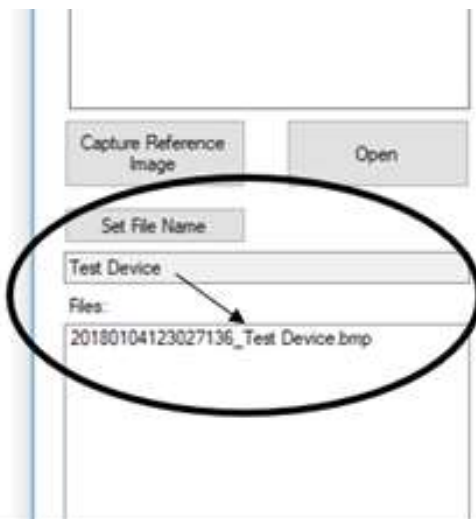

Figure 13A
2. Enter the characters that you would like to be included in file name. **Fig. 13A**